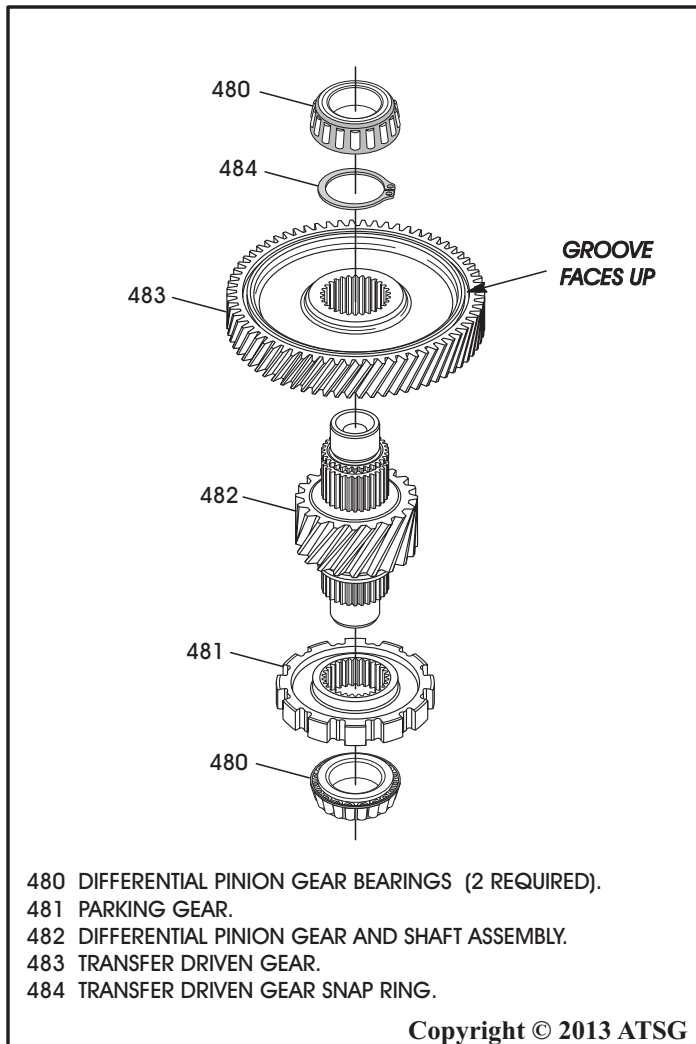

Figure 89
1. Disassemble the differential pinion gear assembly using Figure 89 as a guide.
4. Assemble the differential pinion gear assembly using Figure 89 as a guide.
**Note:** Notice that transfer driven gear goes on the pinion gear shaft with the groove facing up, as shown in Figure 89.